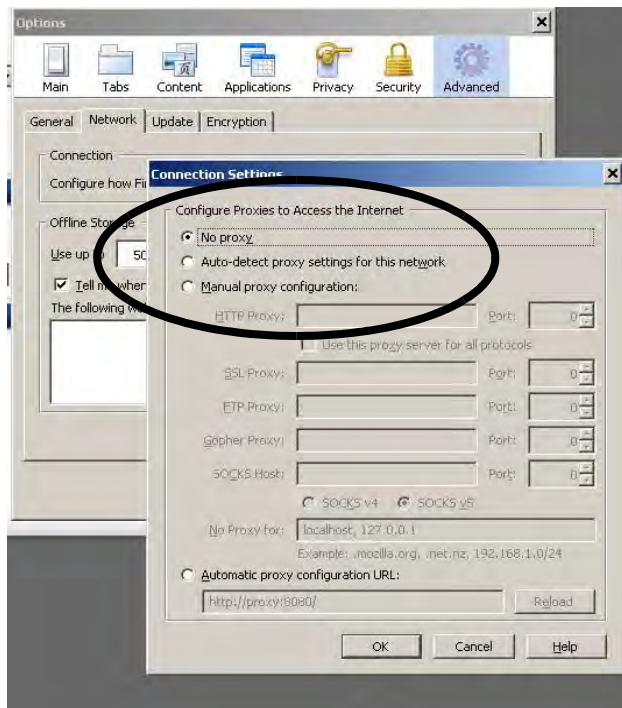

FIG. 38. Turn Off Proxy Setting (Firefox only)
2. *Applies to Firefox only:* To operate in a ProXmix 2KS/3KS network with Firefox, you must turn off the Proxy setting on your browser. In your Firefox browser, go to Tools>Options>Advanced>Network tab>Connection Settings. Click “No proxy.” See FIG. 38.